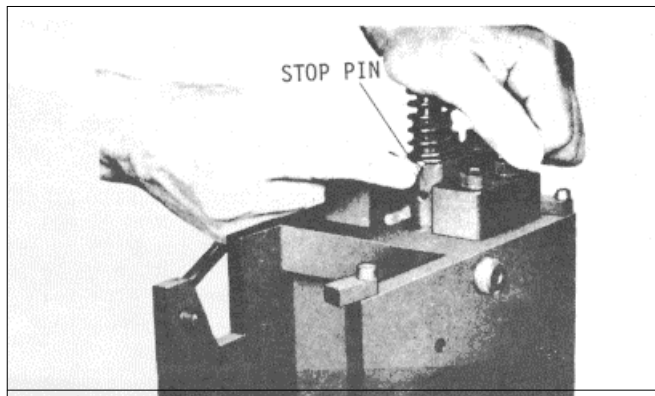

Fig. 41
- (2) Invert the injector in the assembly fixture (filter cap end up) and push the rack all the way in. Then place the follower spring on the injector body.
- (3) Refer to Fig. 41 and place the stop pin on the injector body so that the follower spring rests on the narrow flange of the stop pin. Then align the slot in the follower with the stop pin hole in the injector body. Next align the flat side of the plunger with the slot in the follower. Then insert the free end of the plunger in the injector body. Press down on the follower and at the same time press the stop pin into position. When in place, the spring will hold the stop pin in position.